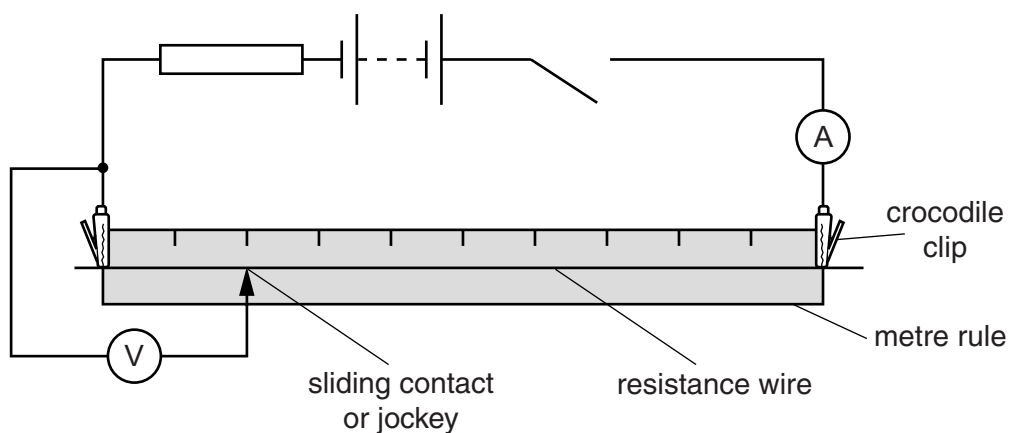

Fig. 4.1
Seven connecting leads to enable the Supervisor to set up the circuit shown in Fig. 4.1.
5. At the changeover, the Supervisor should check that the circuit is set up as in Fig. 4.1 with the switch open. When the switch is closed the current should still be in the range 130 mA to 200 mA. The sliding contact should not be connected to any point on the wire.